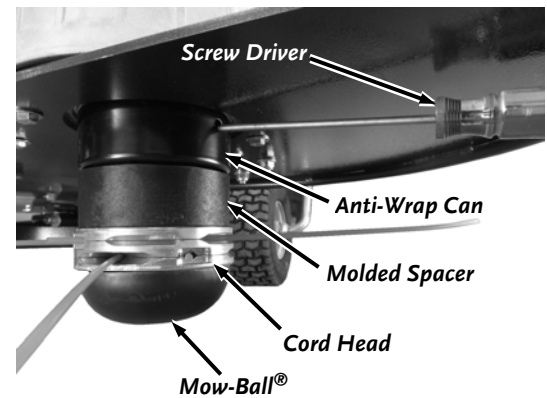

Figure 11
1. Align the hole in the Anti Wrap Canister with the hole in the internal housing at the location shown (**Figure 11**).